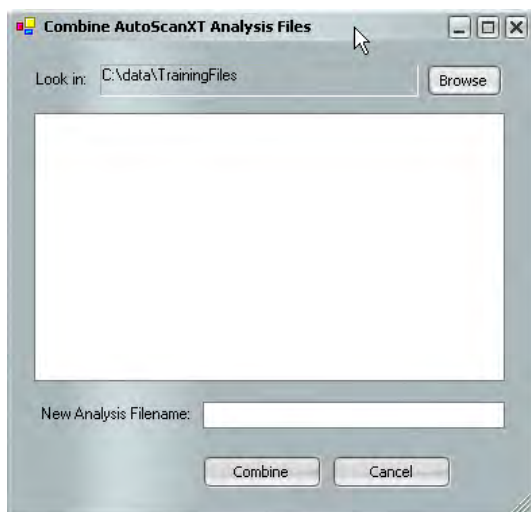

Figure 19. Combine Files and Create a New Analysis File.
5. In the “Combine AutoScanXT Analysis File” window, click Browse to locate the analysis files you wish to combine (Figure 19).